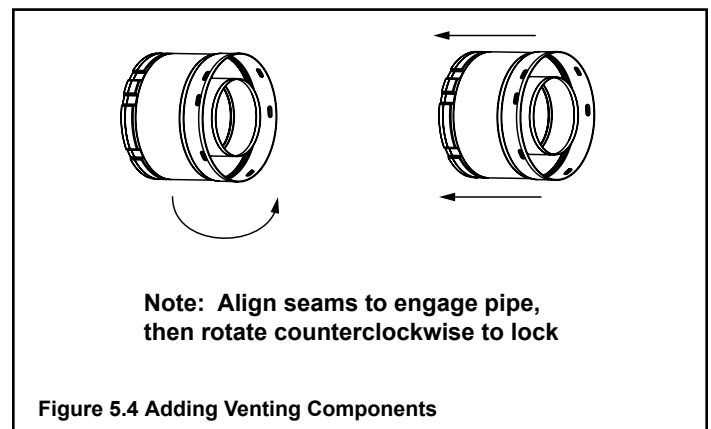

Figure 5.4 Adding Venting Components
3. Female ends of direct vent pipe/elbows are designed to slide straight onto the male ends of adjacent pipes by orienting the pipe indentations so they match and slide into the entry slots on the male ends, see **Figure 5.4**. Align the seam of the pipe and seam of collar to allow engagement. Rotate the vent component to lock into place. Use this procedure for all vent components. See Figure 10.5. Continue adding vent components, locking each succeeding component into place. Ensure that each succeeding vent component is securely fitted and locked into the preceding component.